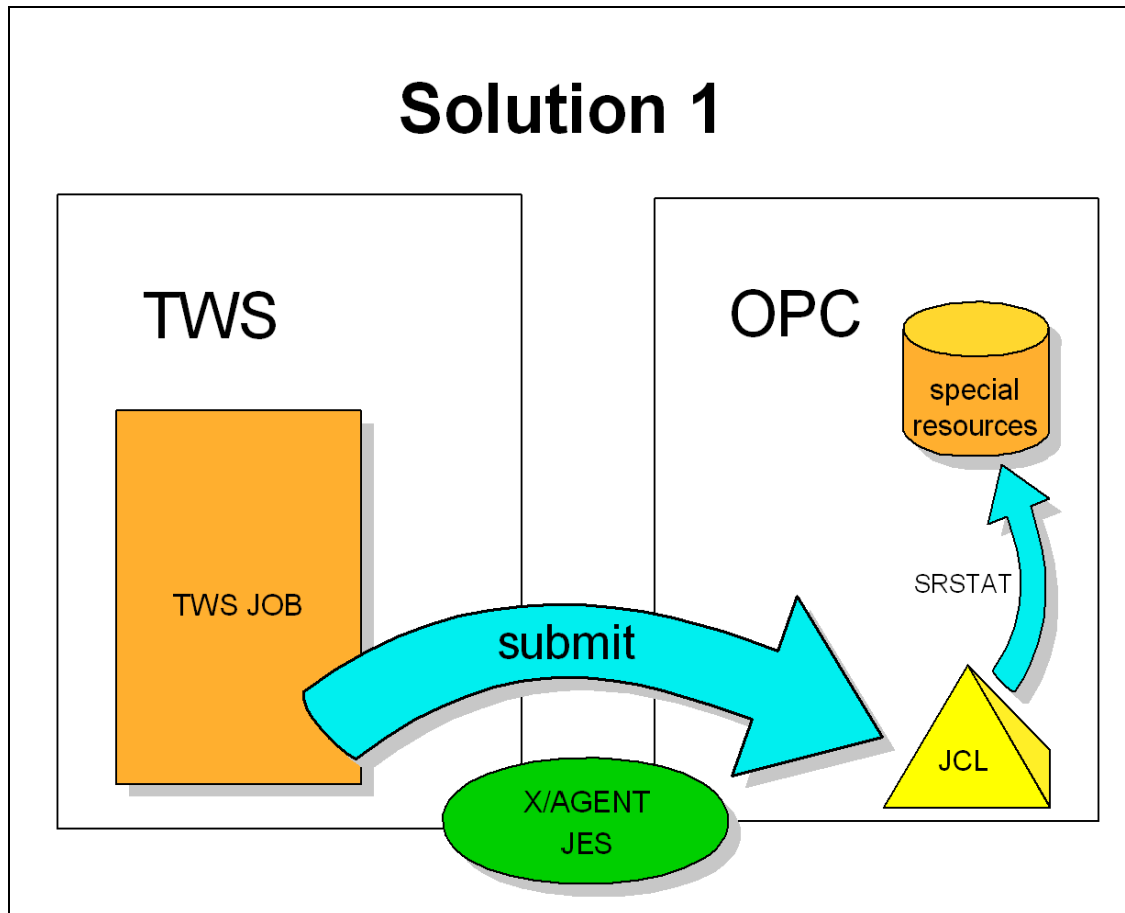

Figure 137. Changing OPC resources from TWS (Solution 1)
1. Create a JCL script on OS/390 that modifies OPC resources and then launch the JCL script via X/AGENT using the MVSJES method. See Figure 137 on page 222.